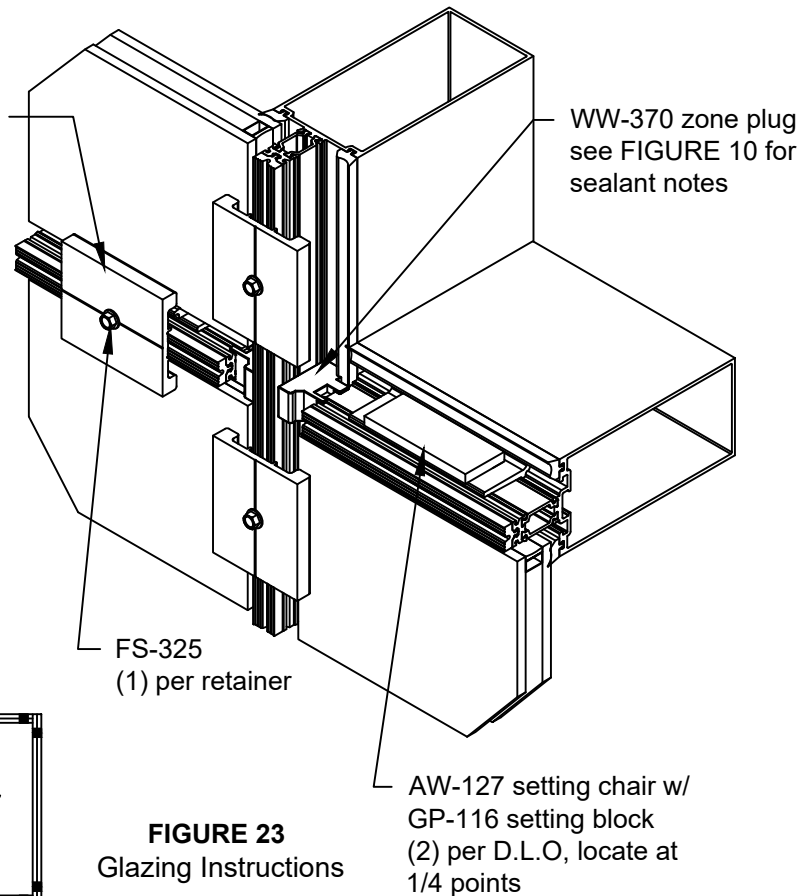

FIGURE 23
- Full length pressure plates must be installed if severe weather or high wind loads are anticipated. **SEE FIGURE 23 & 24.**